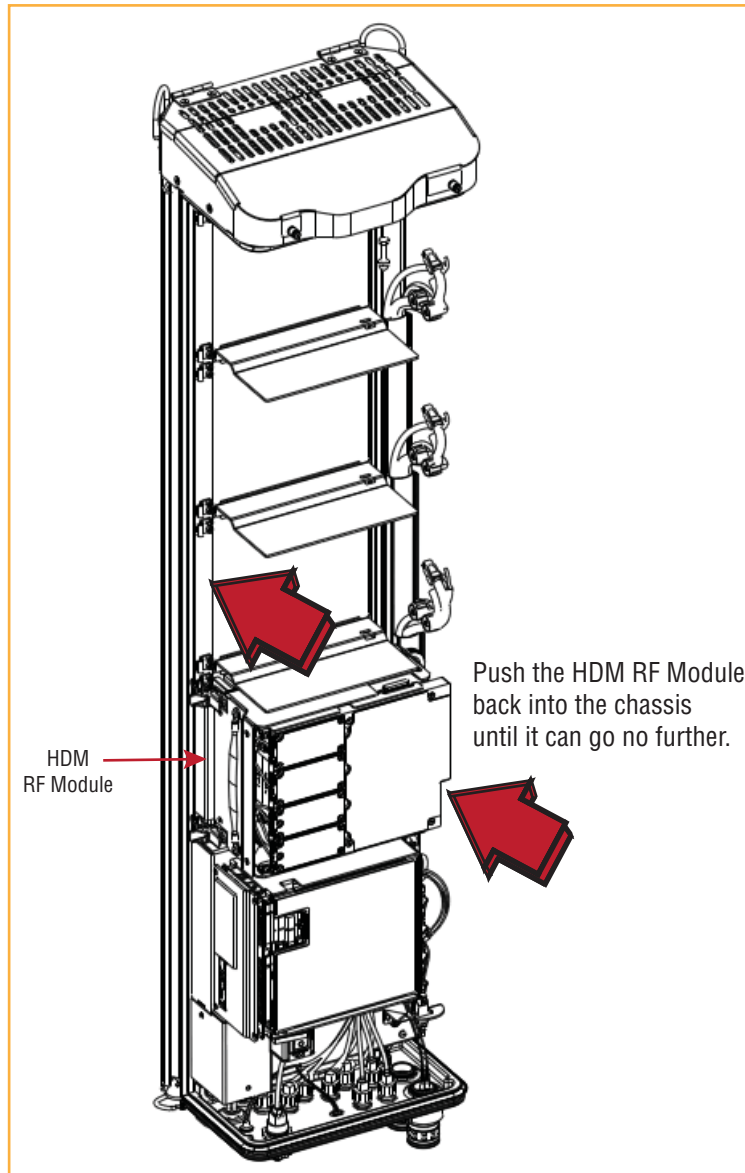

Figure 16. Seating an HDM RF Module
- For HDM RF Modules, see Figure 16 on page 28.